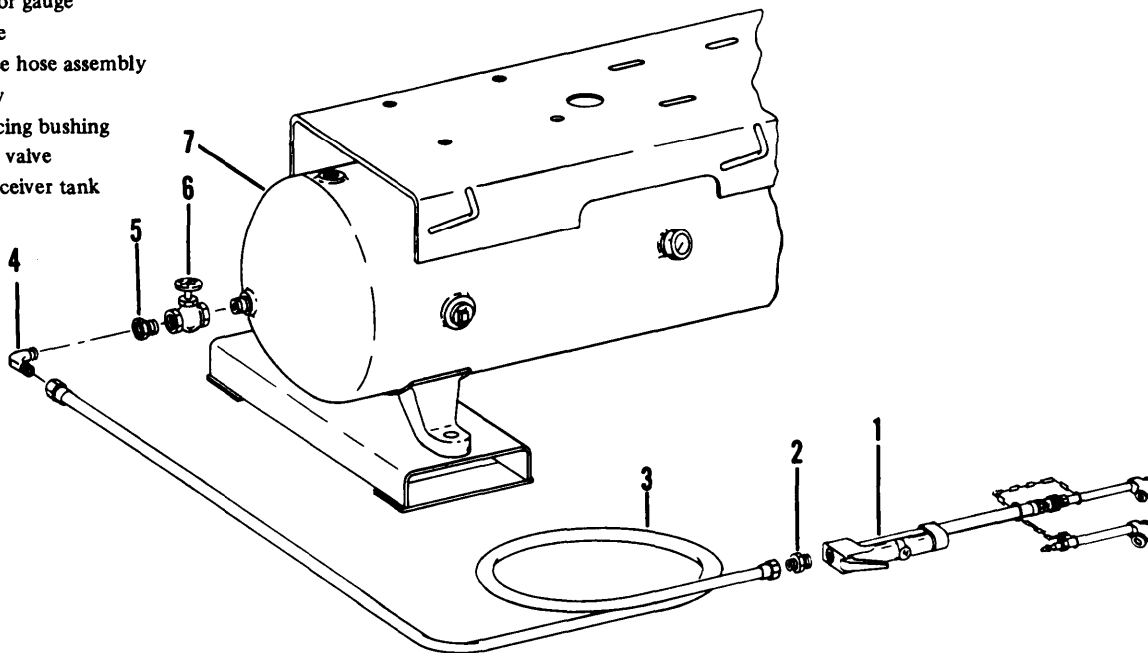

Figure 4-9. Air discharge system
4-27. Inflator gauge. When advised of malfunction of inflator gauge (1, fig 4-9) by operator/crew, close globe valve (6, fig 4-9), relieve pressure in hose; then, unscrew the gauge (1) from end of air service hose nipple (2) and replace with new gauge. Screw the new gauge (1) onto air service hose nipple (2) and again inspect in accordance with para 3-13.a.
a. Removal. Close globe valve (6, fig 4-9), relieve pressure in hose; then, unscrew and remove inflator gauge (1, fig 4-9) and nipple (2) from end of air service hose (3). Disconnect hose assembly from elbow (4). Discard a damaged hose assembly (3) to avoid possible injury from the use of a defective hose.
b. Replacement. Replace damaged hose assembly (3, fig 4-9) with a new assembly. Attach hose to elbow (4) and install nipple (2) and inflator gauge (1) on other end. Coil hose assembly on hanger provided on air receiver saddle until ready for use.
a. Removal. Stop the unit and drain air receiver. Disconnect air service hose (3, fig 4-9) at elbow (4). Unscrew and remove elbow (4) and reducing bushing (5) from globe valve (6), unscrew and remove globe valve (6) from close nipple in end of receiver tank (7). Discard defective globe valve.
b. Replacement. Screw new globe valve (6, fig 4-9) onto close nipple in tank (7). Position globe valve handle in up position for easy access. Install reducing bushing (5) in globe valve (6), install elbow (4) and attach air service hose (3) to elbow (4).
Legend for fig 4-9: